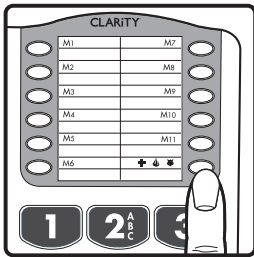

Figure 9
Phone numbers can be stored into the phones memory to enable one button dialing. The phone directory allows space for twelve (12) different phone numbers. One space is marked to be used to store an emergency number. See Figure 9.